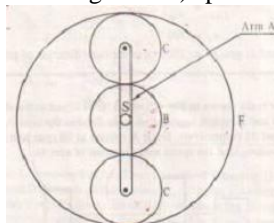

Fig. 4.2
- In an Epicyclic gear train shown in the figure 4.2, the arm A is fixed to the shaft S the wheel B having 100 teeth rotates freely on the shaft S, wheel F 150 teeth is separately driven. If the arm A runs at 200 rpm, wheel F at 100 rpm in the same direction find a) number of teeth of gear C b) speed of the wheel B. (solve it by algebraic method)